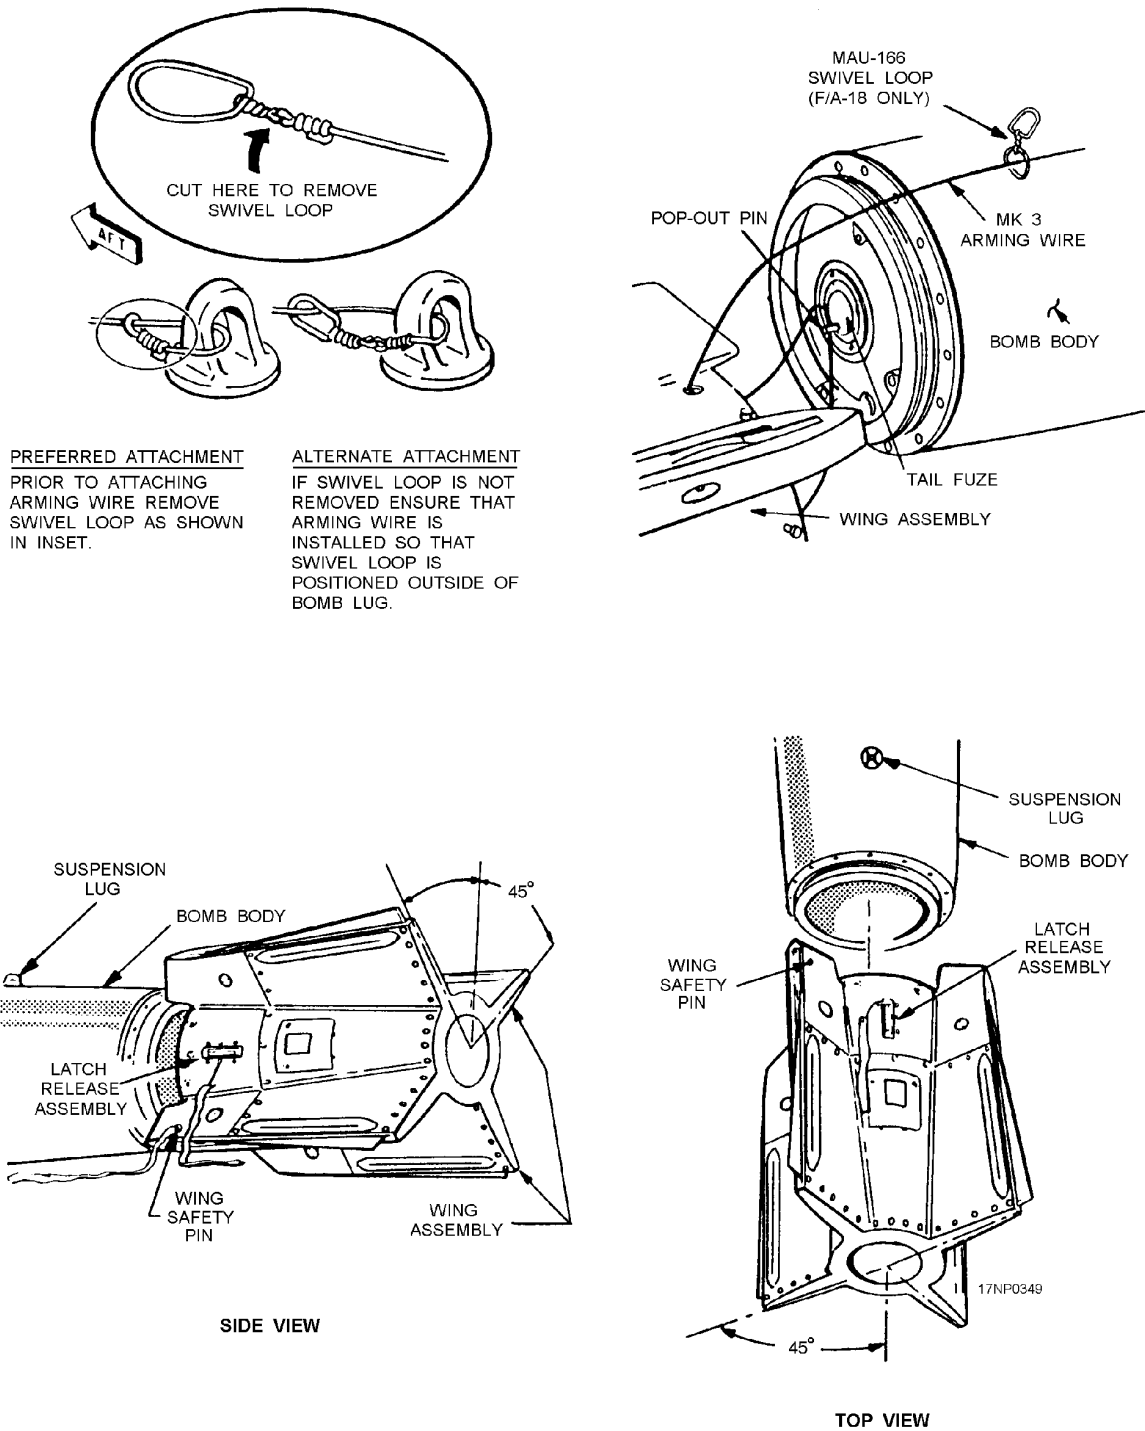

Figure 13-17.—GBU-12/16/10 wing assembly installation.
**NOTE:** Refer to figure 13-17 for steps 3 through 8.